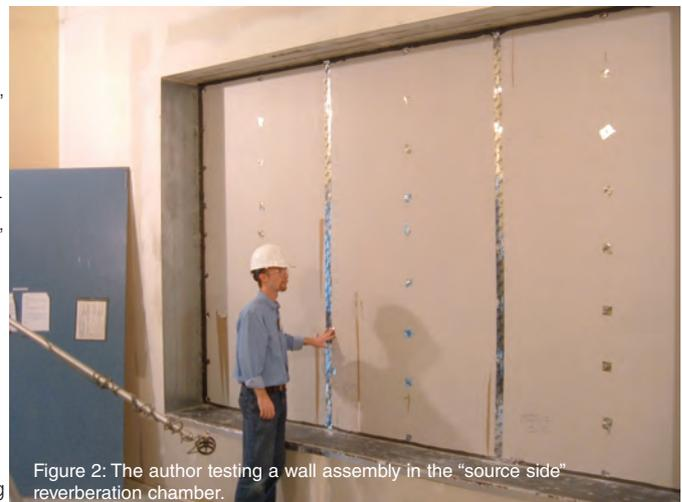

Figure 2: The author testing a wall assembly in the "source side" reverberation chamber.
The ability of a material or partition system to block or attenuate sound from one area to another is measured by transmission loss (TL). The higher the TL, the better. It is measured in two adjoining reverberation chambers (see Figure 2) across a band of frequencies in decibel units of sound pressure. Typically, walls and floor/ceiling assemblies are tested, but doors and windows, of course, are also common partitions.